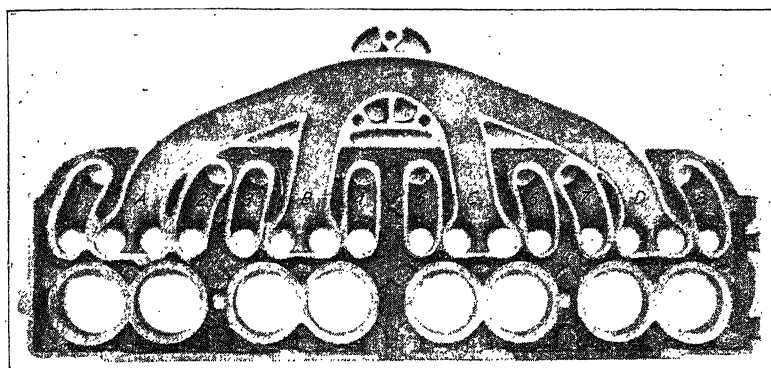

Fig. 8. Hudson Radial Intake Manifold
**Hudson Radial Intake Manifold.** Fig. 8 illustrates a sectioned view of the Hudson manifolding system. Both the intake and exhaust passages have been cut away to illustrate them. The intake passages are lettered *A*, *B*, *C*, and *D*, each one of these passages supplying fuel charges to the two valve ports connected therewith. The exhaust passages are numbered 1, 2, 3, 4, 5, 6, 7, and 8, each of these passages being connected to one of the exhaust valves. This